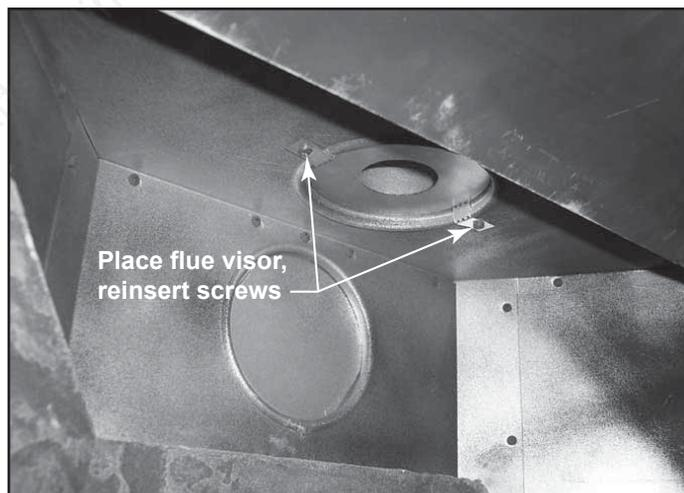

Figure 7.7e 31-60 ft Vertical Run
- The flue baffle will be turned to install inside the flue for vertical vent runs of 31-60 ft. See Figure 7.7e.